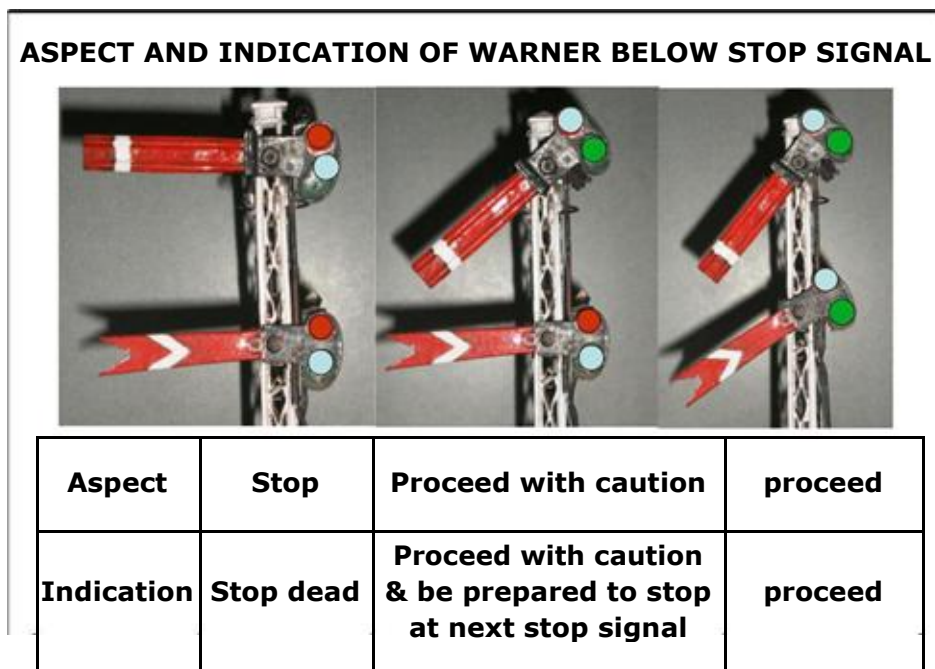

Fig.4.9 Semaphore Two-Aspect - Warner below a Stop Signal
4.9 The combination of two arms (Stop and Warner) on the same post gives the driver three indications in the Two aspect lower quadrant signalling. When both the Stop Signal and the Warner Signal arms are at horizontal position and the showing of two Red Lights one below the other gives an indication to the driver that 'Stop dead' at this signal. The lowering of the Stop Signal above the Warner or showing of a Green Light above a Red Light indicates that he can proceed past the signal with caution and be prepared to stop at the next stop signal. A third condition exists when both the arms are lowered to give two Green lights one below the other. This indicates to the driver that he can proceed and can expect all the stop signals for that direction are 'OFF' and that the block section ahead is also clear. It is also made mechanically impossible to lower only the Warner Signal when the stop signal above it is at 'ON'. In this way showing of Green Light below a Red light is eliminated. The details of the signals and aspects are shown in figure 4.9 below.